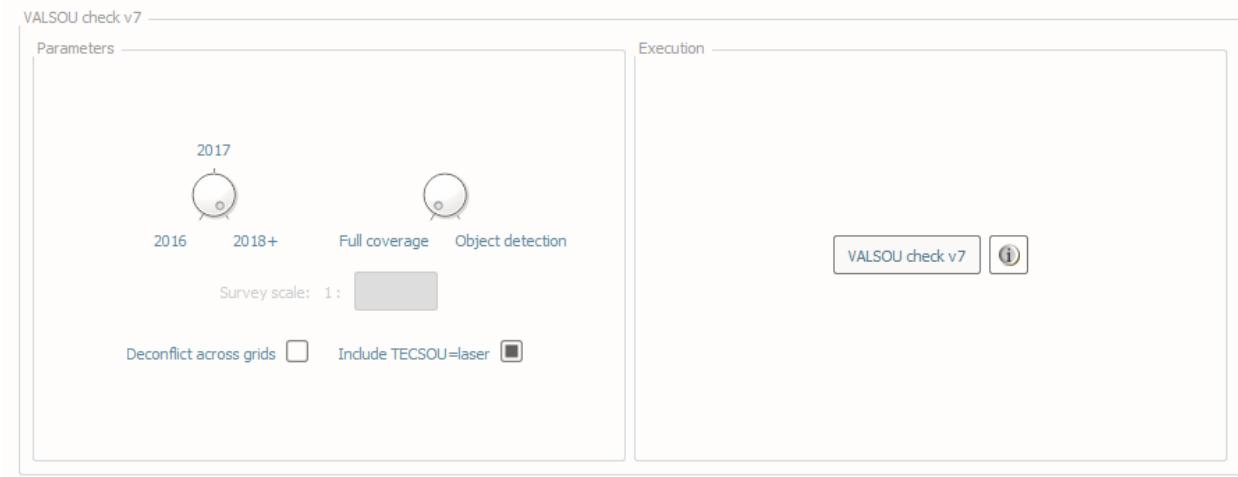

Fig. 2.44: The **VALSOU check** tab.
- Select the **VALSOU check** tab (Fig. 2.44) on the bottom of the QC Tools interface.